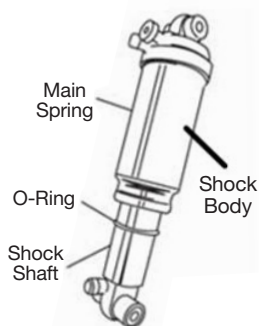

Figure 2
3. Position the bicycle next to a wall so the bike owner can sit on the bike with both feet on the pedals while steadying themselves with one arm. It is necessary they sit on the saddle without bouncing. They should then dismount gently, again taking care to avoid any bounce. Measure the distance the O-ring has moved down the shaft. (Figure 2).